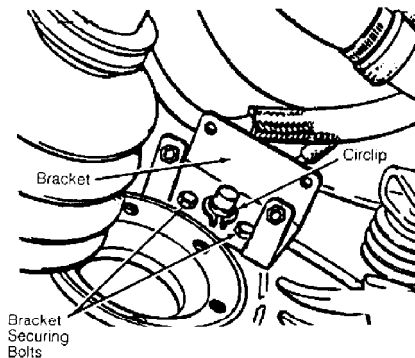

Fig. 2: Removing Differential Lock Servo Bracket (Vanagon)
5) Remove circlip, bracket securing bolts and bracket. See Fig. 2.